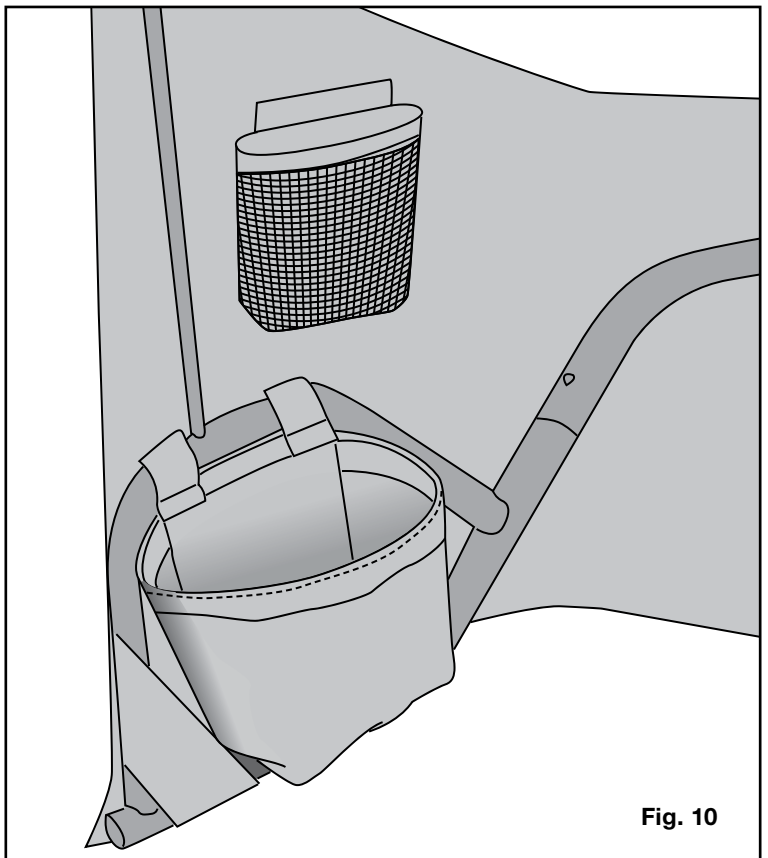

Fig. 10
SECURE POCKETS TO CAB SKIN AND FRAME (FIG. 10)
14. Find the two sand/salt pouches [R1, R2] and the mesh garage door opener holder [S]. Secure the large pouches to the top arch of the mounting bar ends using the rip and grip strips. On the left side of the inside of the fabric skin there is a loose fabric gusset. Secure the garage door opener holder to the gusset with rip and grip strips. (Fig. 10)